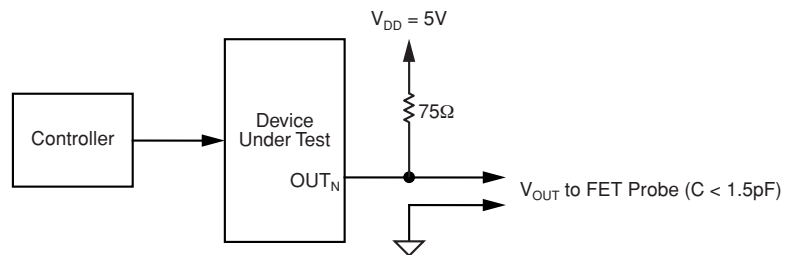

Figure 1. AC Output Test Circuit
**Note 4.** Test circuit shown in Figure 1.